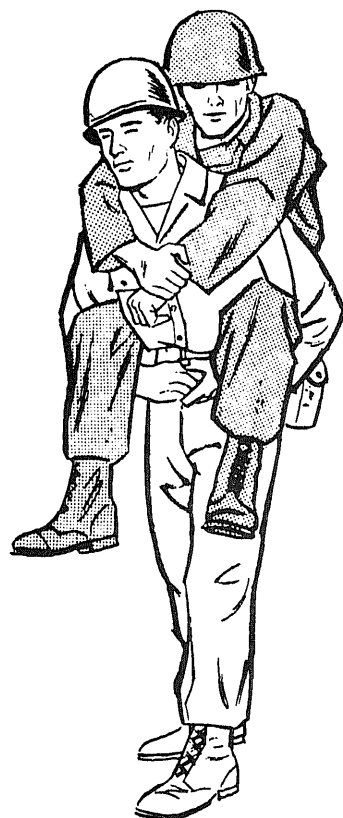

Figure 18-30.—Saddleback carry.
2. Supporting the casualty with one of your arms around him, turn so the casualty can encircle your neck with his arms; then stoop, clasp your hands beneath his thighs, and raise him upon your back (fig. 18-30).